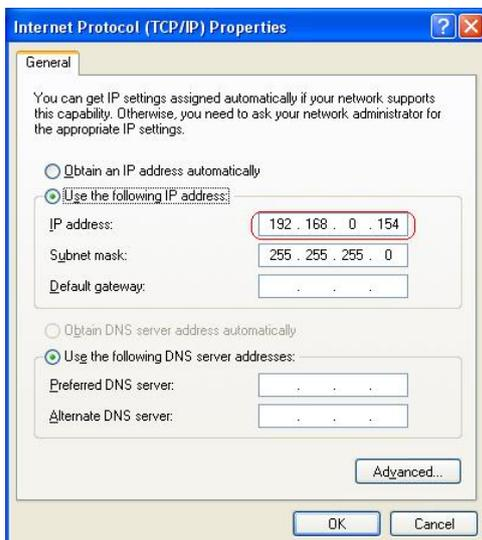

Figure 10-1
- Give the GV-ASManager a fixed IP address that is NOT used by another device. See Figure 10-1.